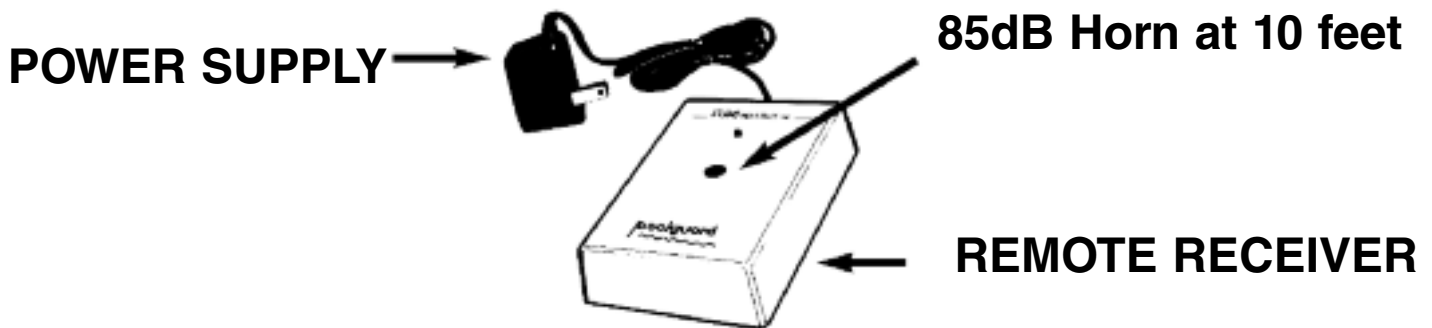

FIGURE 6
- A coded pulse receiver (Remote Receiver). (See Figure 6).
- A standard wall outlet power supply. (See Figure 6).